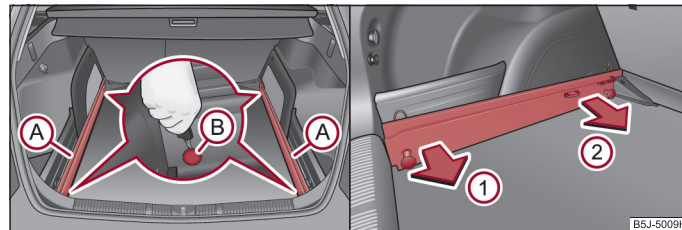

Fig. 63 Luggage compartment: Slacken check points / remove carrier rails
- Slacken the check points (B) on the carrier rails using the vehicle key or a flat screwdriver ⇒ page 67, fig. 63.
- Grasp the carrier rail (A) at the position (1) ⇒ page 67, fig. 63 and slacken it by pulling in the direction of the arrow. You can take out the removable storage compartments* in order to facilitate the removal ⇒ page 78, "Removeable storage compartments* in the luggage compartment".
- Grasp the carrier rail (A) at the position (2), slacken it by pulling in the direction of the arrow and take it out.